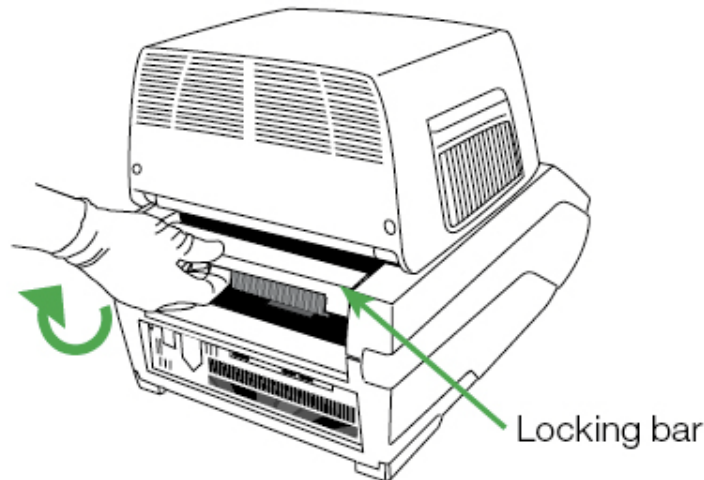

Figure 5. Locking the optical module into place.
4. Reach around and pull up the locking bar of the C1000 Touch or CFX Connect chassis until it is flush with the sides of the module bay. This action moves the module forward, locking it into place (Figure 5).